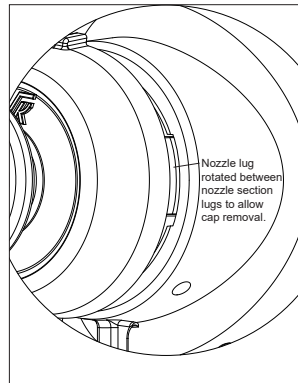

Fig. 6C
1. Insert the greased cap/nozzle assembly into the nozzle section outlet until the nozzle lugs are with the nozzle section lugs as shown in fig. 6C.